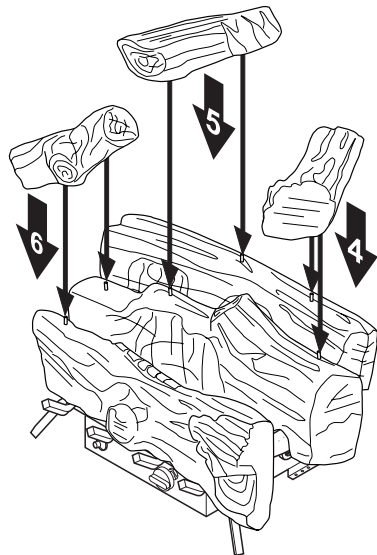

Figure 21 - Installing Crossover Logs
4. Locate holes on bottom of right crossover log (#4). Slide holes onto right pin on middle log (#2) and right pin on back log (#3). See Figure 21 for placement.
5. Locate holes on bottom of middle crossover log (#5). Slide holes over middle pin on middle log (#2) and left pin on back log (#3). See Figure 21.
6. Locate holes on bottom of left crossover log (#6). Slide these holes onto left pins located on middle log (#2) and front log (#1). See Figure 21.